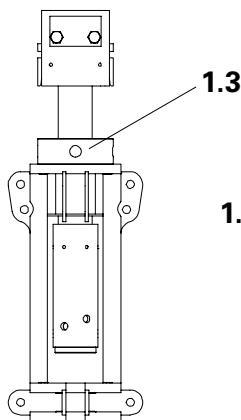

Fig. 2
1. Turn the spindle nut (1.3) with mounting shaft anti-clockwise as far as possible. (Fig. 2)